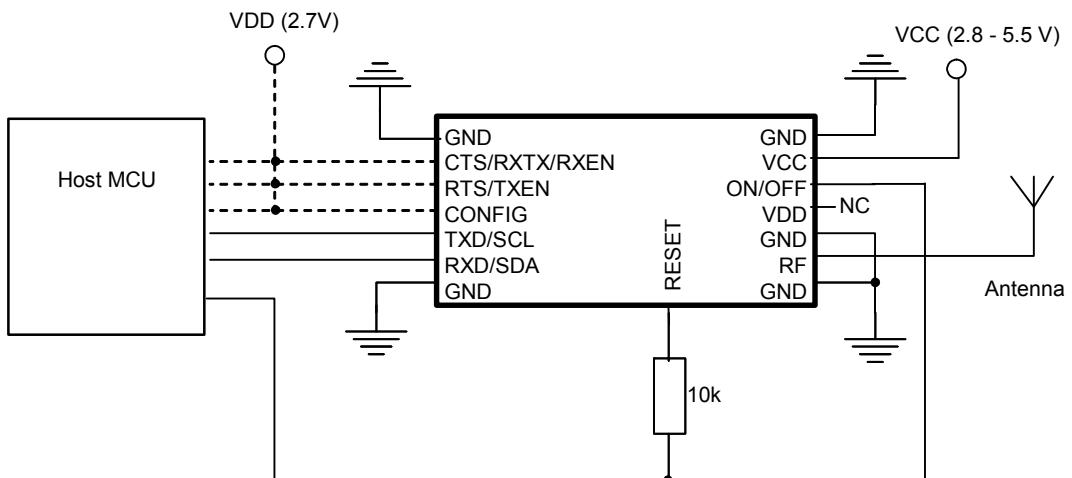

Figure 2. Reset circuit controlling ON/OFF
- Control the RESET pin by the same I/O in used to control ON/FF. A 10 kOhm series resistor is used for the RESET pin to limit the input current from the 3 / 5V signal from the MCU. See Figure 2 below.